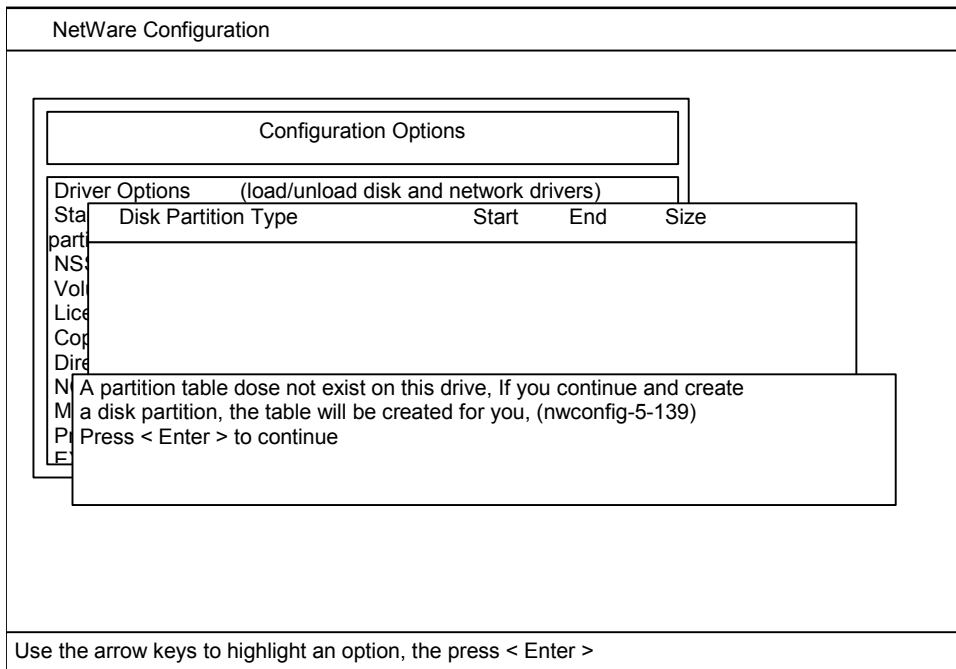

Figure 3.4 Confirming the Partition Table Message
5. If the partition table has already been initialized, skip this step. If the partition table has not yet been initialized, the partition table message is displayed (see Figure 3.4). Press **Enter** to confirm the message. When the **Initialize the partition table?** message appears, select **Yes** and press **Enter** to initialize the partition table.